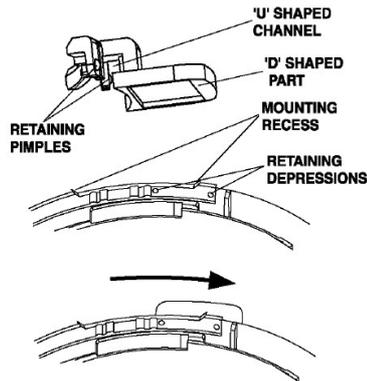

Fig. 5 Fitting Address Label Carrier
- e) Fit the address flag to the detector, see Fig. 5.